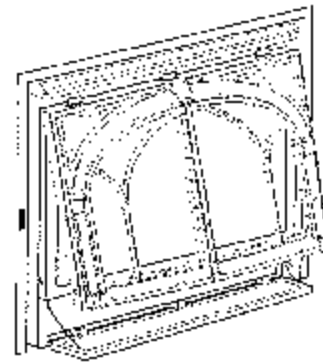

Figure 45. Hang the frame on the cabinet.
The door assembly attaches to the fireplace by engaging the three slots in the upper frame with the corresponding steel tabs at the top of the firebox. See fig. 45.
1. Open the Control Access Door. Hang the door frame onto the firebox by engaging the tabs with the holes in the frames. See fig. 45.